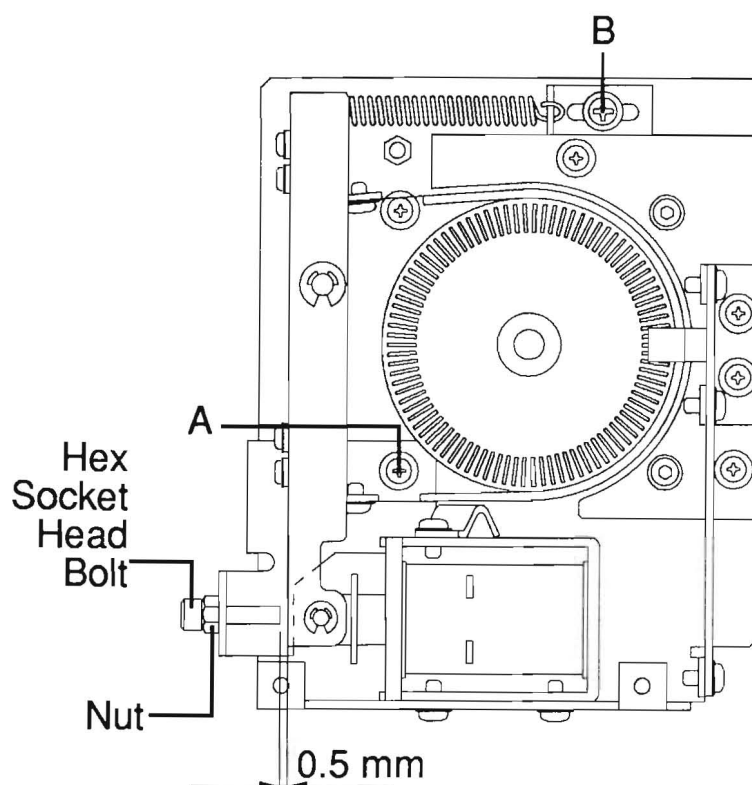

Figure 2
2. Installation (Refer to Figure 2)
3. Attach the stopper plate to the brake base with M4 screw (marked "A" in Figure 2). Set the stopper plate position by fitting the angle portion to the brake base plate, and tighten the M4 screw.
4. Referring to Figure 2, attach the Hex Socket Head Bolt (M3 x 15) and Hex Nut (M3) to the stopper plate.